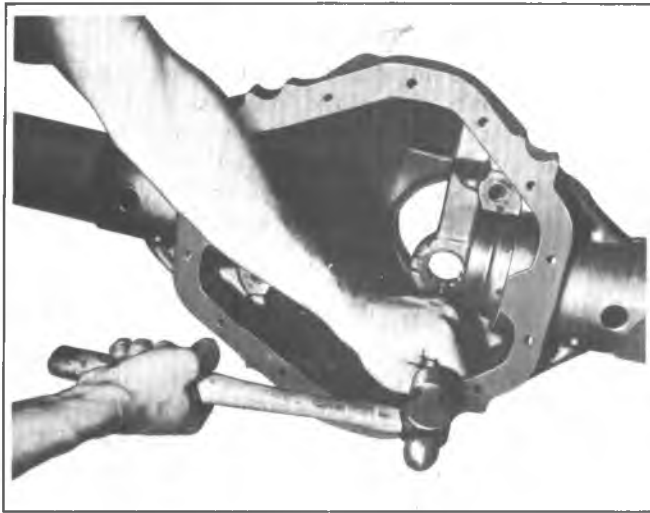

Fig. 12E--Removing Straddle Bearing
9. Drive the pinion straddle bearing from the carrier housing, using a drift as shown in figure 12E.